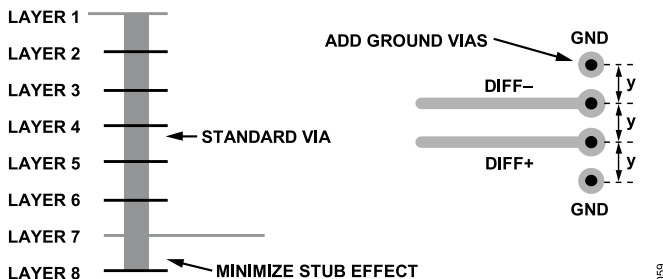

Figure 58. Minimizing Stub Effect and Adding Ground Vias for Differential Stripline Traces
- ▶ If using standard vias, use the maximum via length to minimize the stub size. For example, on an 8-layer board, use Layer 7 for the stripline pair (see Figure 58).
- ▶ For each via pair, place a pair of ground vias adjacent to them to minimize the impedance discontinuity (see Figure 58).